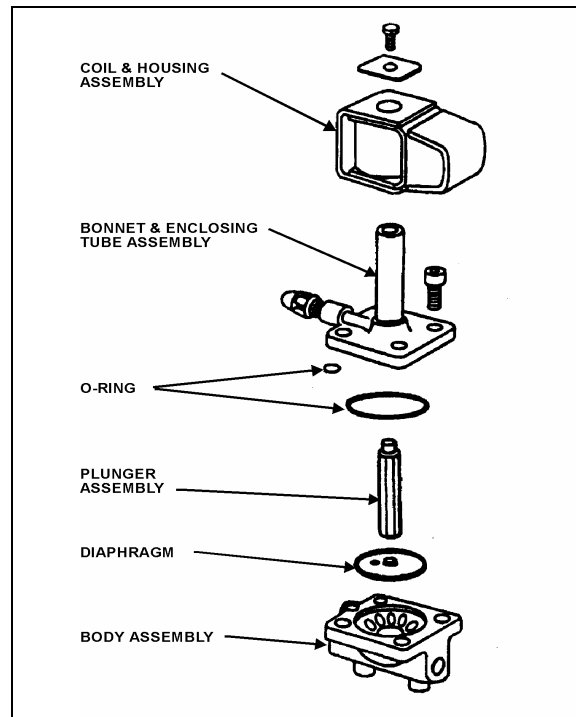

FIGURE 37: REFRIGERANT SOLENOID VALVE
3. Remove the four socket head screws which hold the body and bonnet together (Figure 37).